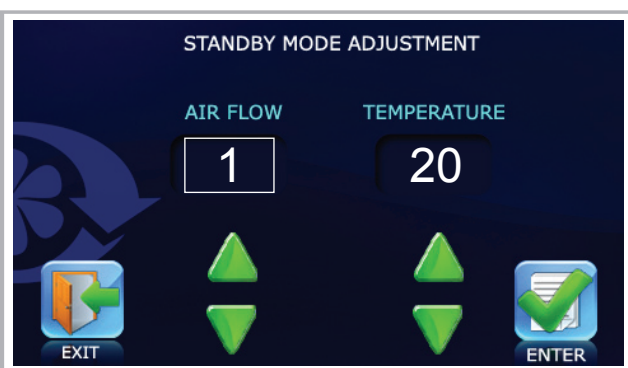

Fig. 24. Standby mode adjustment
- Press the button **ENTER** (fig. 24).